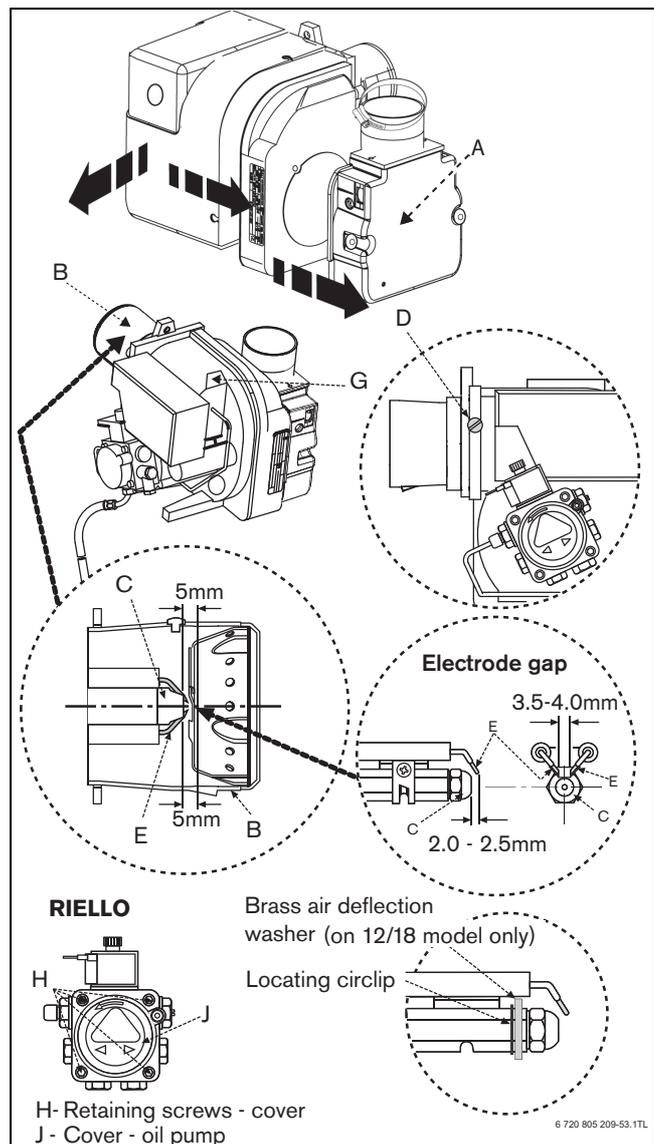

Fig. 76 Burner detail
After refitting check that the electrode gaps are correct, as shown in figure 76.
- ▶ Check the electrodes [E] and reset if necessary as shown in figure 76.